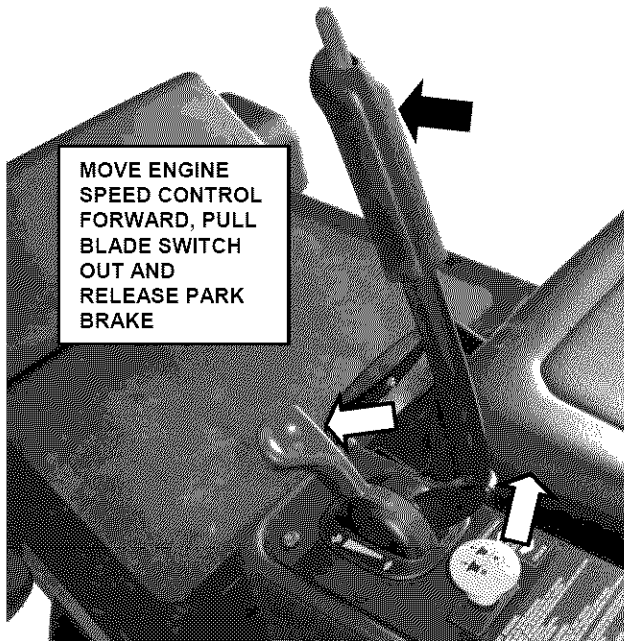

FIGURE 2.7
2. Pull the blade switch out into the "ON" position to engage the mower blades. See Figure 2.7.
3. Release the parking brake. See Figure 2.7.
1. Push the blade switch in to "OFF" position to disengage or stop the mower blades. See Figure 2.7.
3. Release parking brake by pushing button at the top of lever and moving brake lever forward to the "OFF" position. See Figure 2.7.